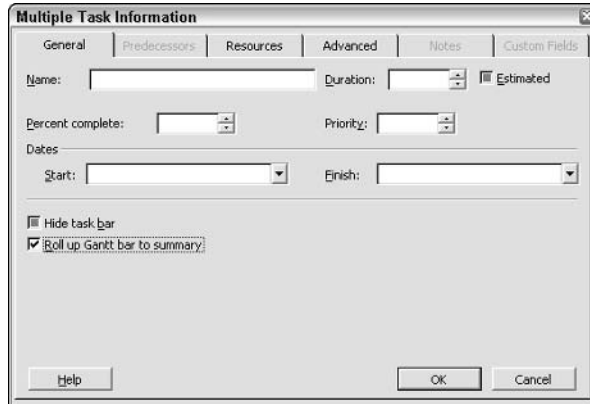

Figure 6-36: Use the General tab of the Multiple Task Information dialog box to mark tasks for rollup.
2. Click the Task Information button on the Standard toolbar to open the General tab of the Multiple Task Information dialog box, as shown in Figure 6-36.